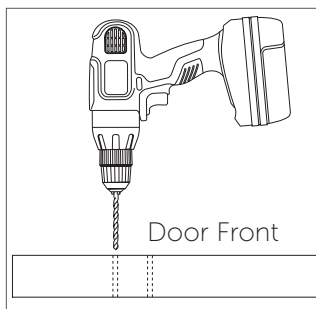

Figure 3
4. Drill two pilot holes all the way through the door for each hanger using a drill with an 1/8" drill bit (Figure 3).